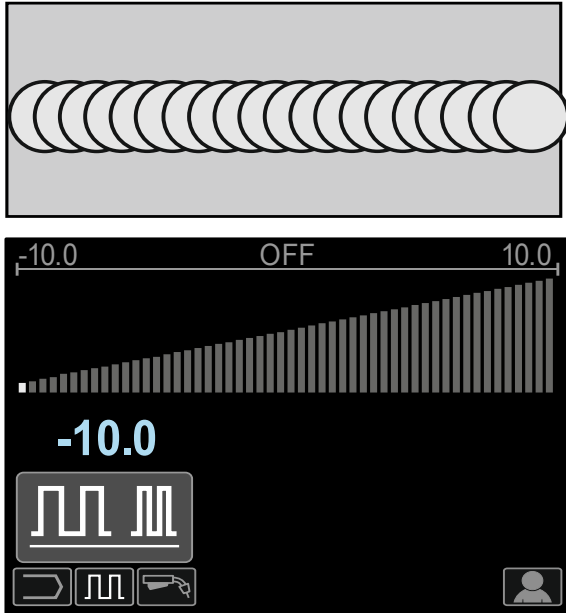

Figure 82
- Frequency less than 0.0 – Wide weld and ripple spacing, slow travel speed. Figure 82 shows the spacing weld when the frequency is "-10".